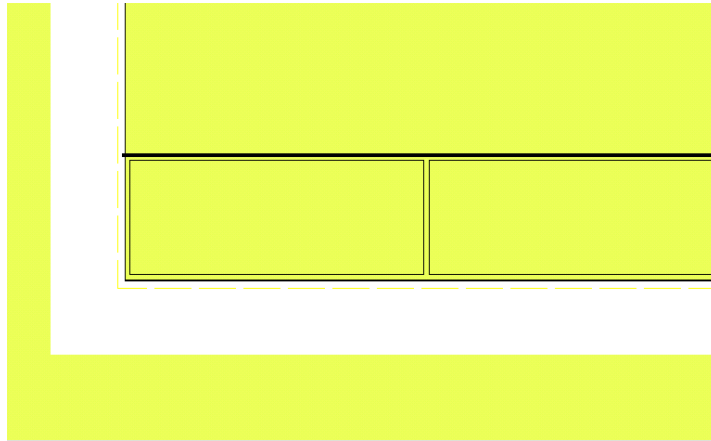

Figure 4-96
24. Make a copy of this rectangle to the right of the original. Select *Modify/Copy/Linear*, click on the rectangle and then click [OK] for **1** copy. Click on the top left of the rectangle and while holding the <Ctrl> key down, move the copy to the right of the original. Click to place the copy. (Holding the <Ctrl> key down while drawing an object activates the "Ortho Mode"). See Figure 4-96.